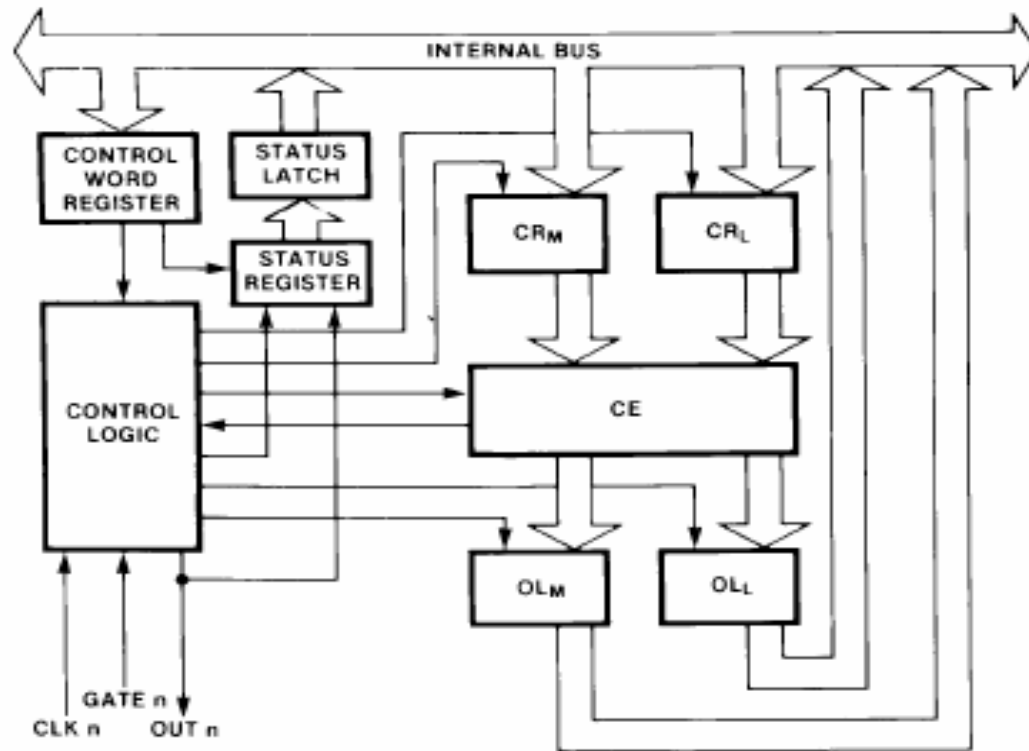

Figure 5. Internal Block Diagram of a Counter
- **COUNTER 0, COUNTER 1, COUNTER 2** :These three functional blocks are identical in operation, so only a single Counter will be described. The internal block diagram of a single counter is shown in Figure 5.
- The status register, shown in Figure 5, when latched, contains the current contents of the Control Word Register and status of the output and null count flag. (See detailed explanation of the Read-Back command.)